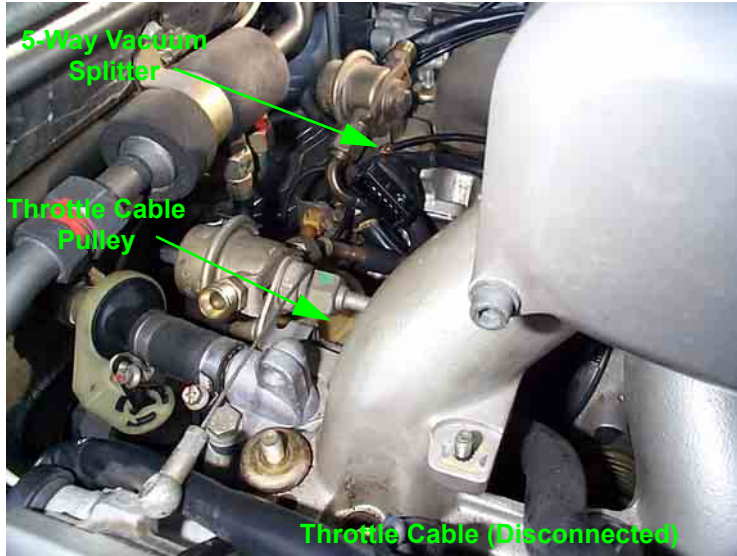
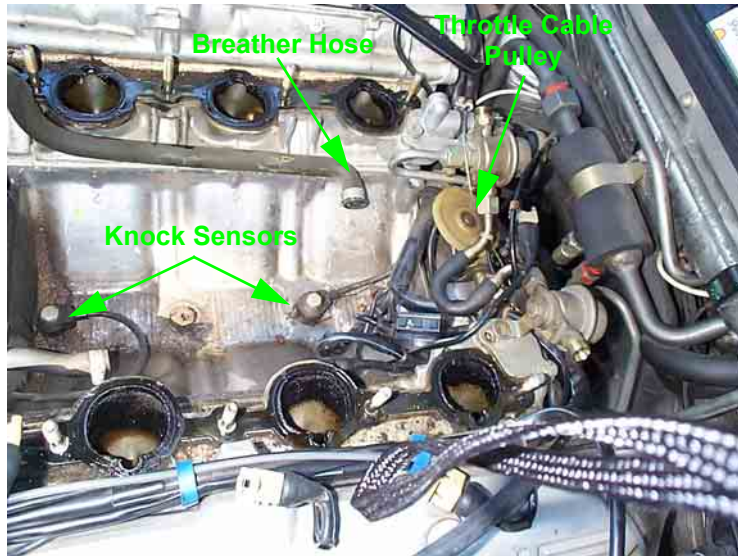

FIGURE 13
FIGURE 15
- m. Disconnect the vacuum line from the top of the throttle housing that feeds to a 5-way splitter near the firewall. See *Figure 12*. See *Figure 13*.
- c. Lift the passenger side of the intake. Disconnect the breather hose from the rubber elbow of the throttle housing. See *Figure 15*.
- b. Problems with the throttle cable. The throttle cable is threaded around a pulley. *See Figure 13. See Figure 15.* Make sure that you properly thread the throttle cable around the pulley when you re-attach it to the linkage on the throttle body. Also, make sure that the cable is correctly threaded through the cable guide at the firewall.